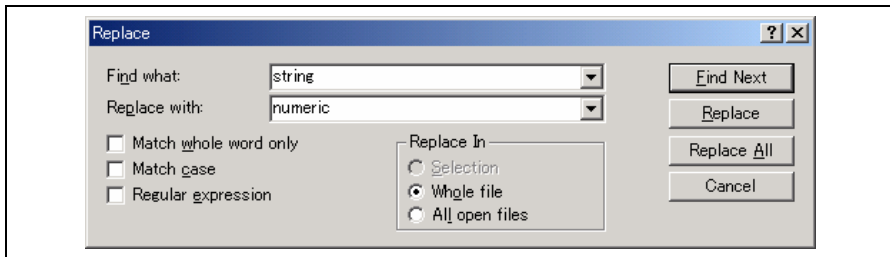

Figure 4.4: Replace Dialog
3. Select [Edit->Replace...], press CTRL+H or select [Replace...] from the editor window's local menu. A replace dialog box will be displayed (figure 4.4).